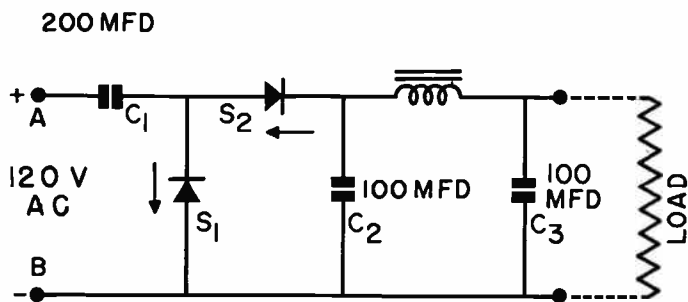

Fig. 16. A typical voltage-doubler circuit.
Since many transformerless TV receivers use tubes that were designed for use in transformer-type sets, they require operating voltages of 200 to 300 volts. The obvious solution to supplying a voltage somewhere between 200 and 300 volts to the plates of the various tubes is the use of a voltage-doubler circuit. Since one side of the power line must be connected to B- to provide the heater circuit, we cannot use a full-wave voltage doubler like the one in Fig. 5. Instead we use one like that shown in Fig. 16.
Fig. 18. In the half-wave doubler shown in Fig. 16, on the half-cycle (A) C_1 is charged; on the other half-cycle (B) the line voltage is in series with the voltage across C_1 , charging C_2 and C_3 to almost twice the peak line voltage.
The operation of the circuit shown in Fig. 16 can best be understood by studying Fig. 18. When the input voltage makes terminal B positive with respect to terminal A, S_1 will conduct in the direction indicated by the arrow beside it. Thus, electrons will be drawn away from the right hand plate of capacitor C_1 , making that side of the capacitor positive. By the same token, electrons will collect on the left-hand plate of C_1 , making it negative. Because S_1 will not conduct in the opposite direction, after a few cycles of input voltage have been applied, C_1 will be charged to the peak value of the sine wave voltage with the polarity indicated.
The voltage doubler described in Fig. 16 is a half-wave voltage doubler, whereas the one described in Fig. 5 is a full-wave doubler. The difference lies in the fact that in Fig. 5 there is a charging pulse applied to the output during each half cycle to give 120 pulses per second from a 60-cycle power line. On the other hand, in the circuit shown in Fig. 16, one pulse charges C_1 and the other is applied to the output. Thus there are only 60 pulses per second in the output from a 60-cycle power line. Since there are twice as many pulses to the filter network in Fig. 5, smaller filter capacitors can usually be used in this circuit than in the one shown in Fig. 16.
- (o) Why is the circuit shown in Fig. 16 a half-wave voltage doubler rather than a full-wave doubler?